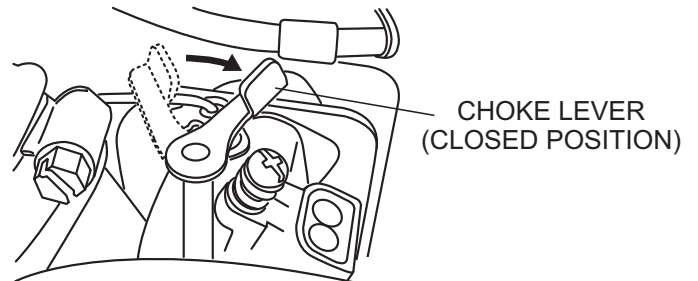

Figure 7. Choke Lever
3. Place the choke lever to the closed position (Figure 7). When the weather is cold, close the choke all the way. When it is hot, or if the engine is hot, open the choke a little or leave it fully open.